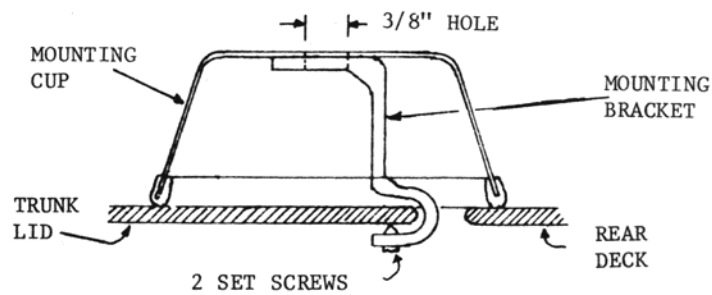
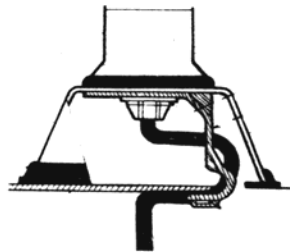

FIGURE 8
FIGURE 9
1. Route the cable, from the transmitter, to the desired mounting location on the edge of the trunk lid. Thread the cable through the slots in the mounting bracket. See Figure 9. Then slide the mounting washer over the exposed end of the cable and feed the cable through the trunk edge opening.
11. Slip the mounting bracket over the trunk edge (Figure 8), and tighten the set screws with the allen wrench supplied. The assembled mounting adapter and cup should be as shown in Figure 9.